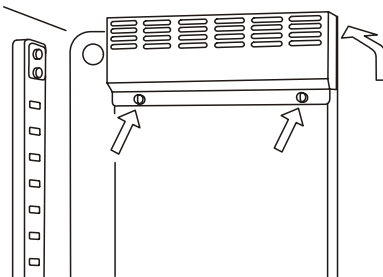

Fig. 5
7. After removing 2 screws fixing the top duct, take out the top duct by removing pin. See Fig. 5.